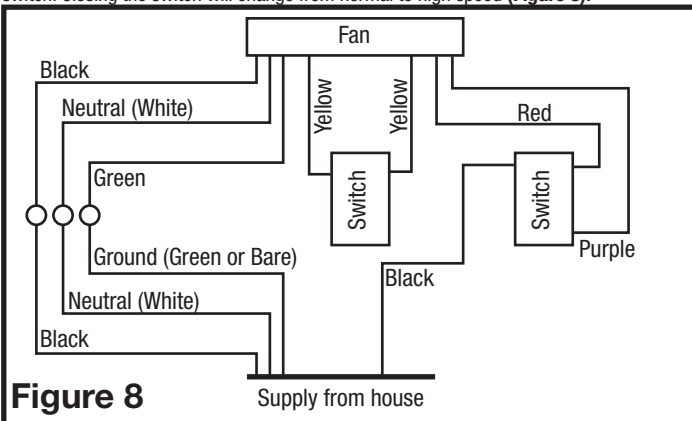

**Figure 7**
- 1b. Internal Wire Compartment: If the motor is already installed in the housing, remove the two screws holding the blower assembly in place. Lift up on the assembly and slide it out of the tabs on the housing (Figure 6). Remove the wire compartment cover screw and place the cover in a secure place (Figure 7).